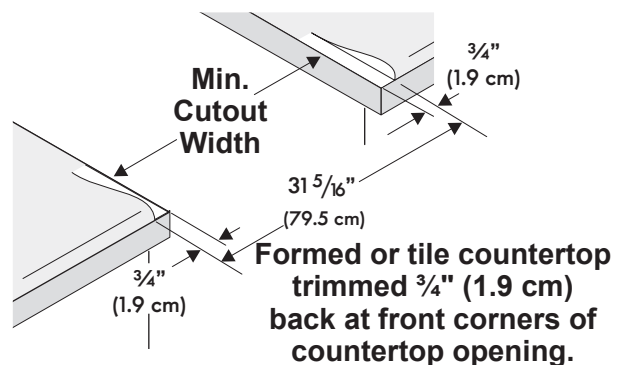

Figure 7
- **Formed front-edged countertops** must have molded edge shaved flat $\frac{3}{4}$ " (1,9 cm) from each front corner of opening (Figure 7).
- **Tile countertops** may need trim cut back $\frac{3}{4}$ " (1,9 cm) from each front corner and/or rounded edge flattened (Figure 7).